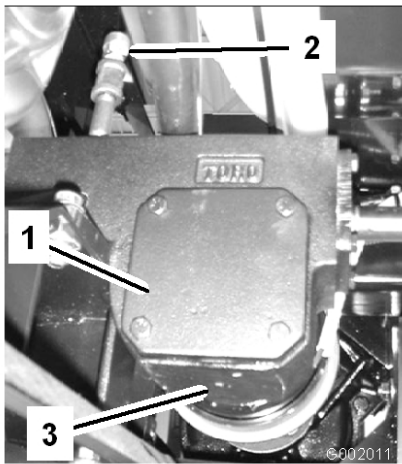

Figure 70
2. Place a pan under the drain plug on the pump drive gear box (Figure 70).
3. Remove the fill plug and drain plug (Figure 70), allowing the oil to drain into the pan.